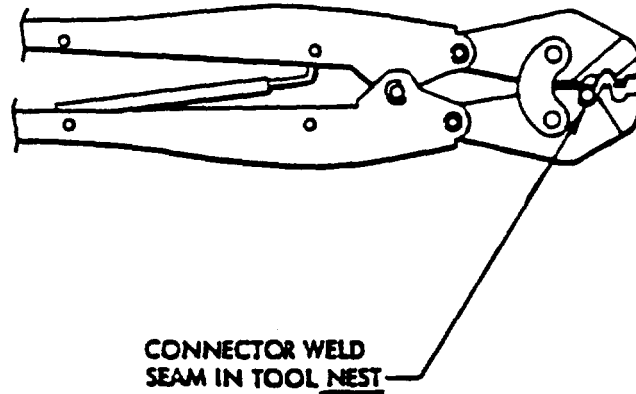

Figure 14. Parallel Connector Crimping
Connector must be centered in the nest. Connector weld seam must be in the nest section of the crimping tool as shown in Figure 14. Position wires in connector to
g. Crimp the connector in the appropriate nest of the AMP No. 49935 crimping tool. (Figure 14).
Connector must be centered in the crimping tool. Connector weld seam must be in the nest section of the crimping tool (Figure 14).